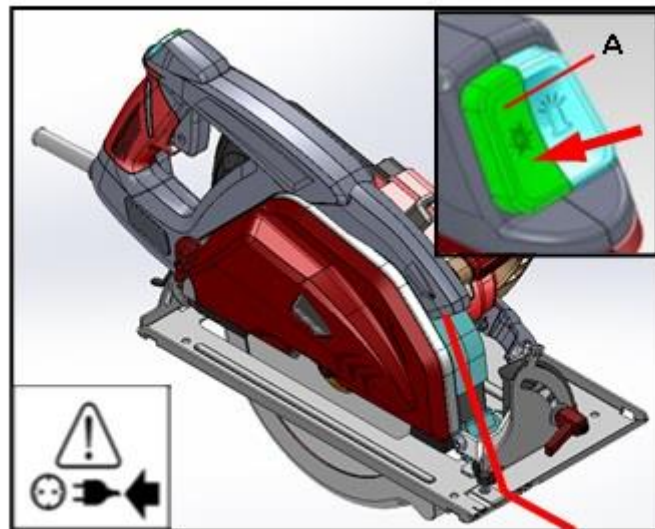

Fig.8
1. Plug power cord into appropriate power supply and press the bottom of the left button (A) to turn on the laser. Press again to turn laser off. **Fig.8.**